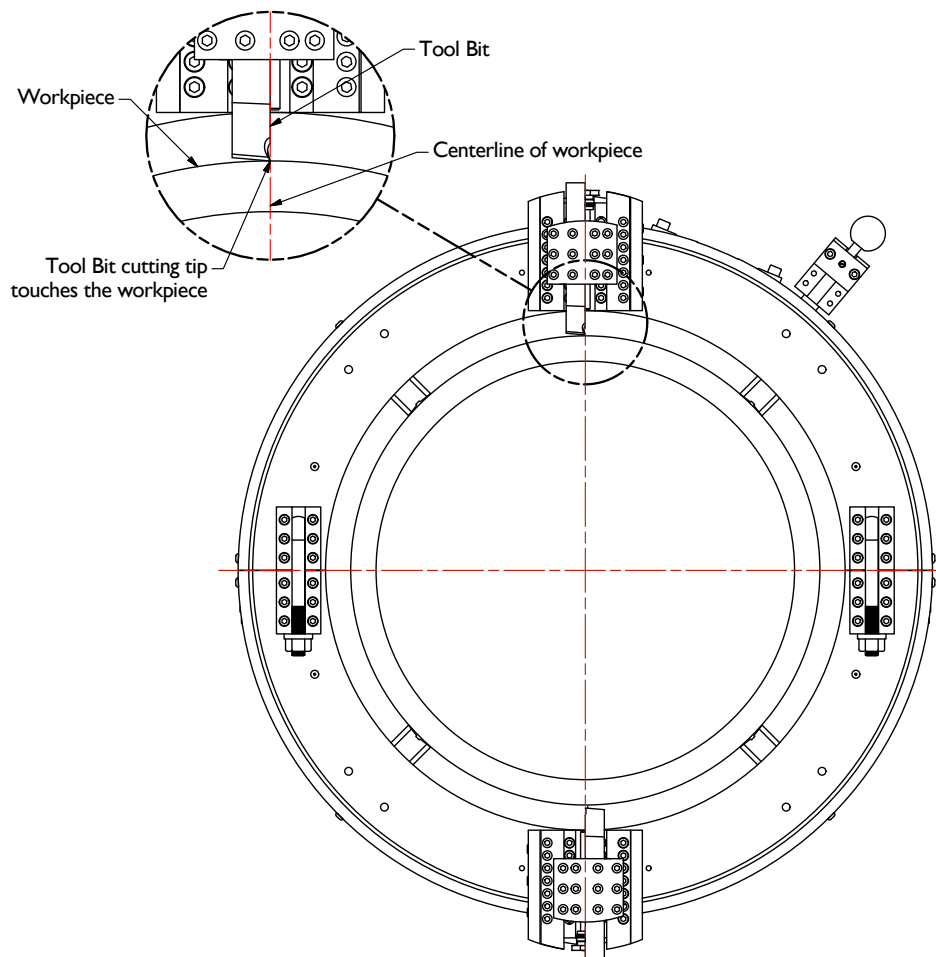

Figure 11 - Cutting Tip on Centerline
12. The tool bit cutting tip must lie on the centerline of the workpiece. Lightly tighten one set screw on the side of each tool block to hold the tool bits, yet allow movement to set the tool bit at the proper position. See Figure 11.